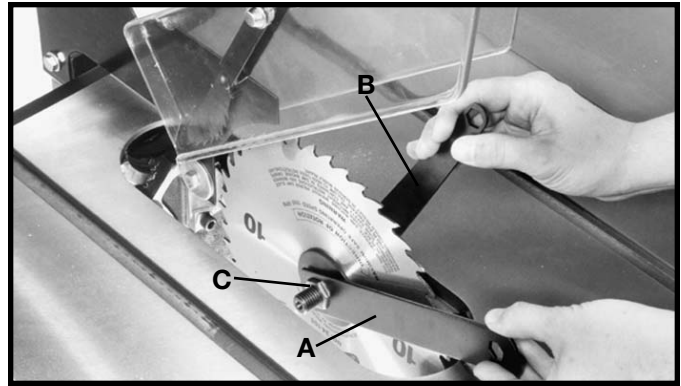

Fig. 117
4. Place the open end wrench (B) Fig. 117, on the flats of the saw arbor to keep the arbor from turning, and using wrench (A), turn the arbor nut (C) clockwise. Remove arbor nut, blade flange and saw blade.
5. Assemble the new blade, making certain the teeth are pointing down at the front of the saw table and assemble outside blade flange and arbor nut. With wrench (B) Fig. 117, on the flats of the arbor to keep it from turning, tighten arbor nut by turning wrench (A) counterclockwise.